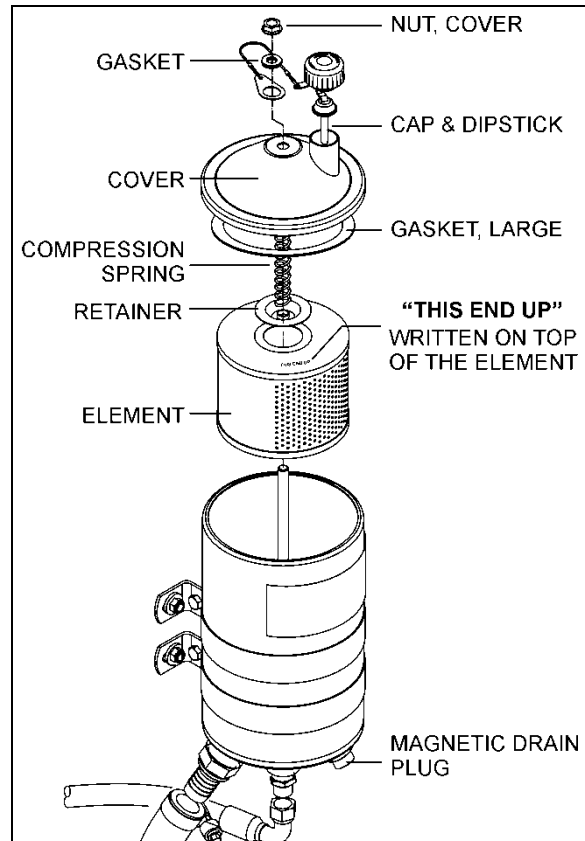

FIGURE 25: POWER STEERING FLUID RESERVOIR
3. Prior to pulling out the oil dipstick on the power steering fluid reservoir (Figure 25), thoroughly clean the reservoir and its immediate vicinity to protect the fluid from being soiled by impurities.
2. Unscrew and remove the cover nut located on top of the power steering fluid reservoir (Figure 25).